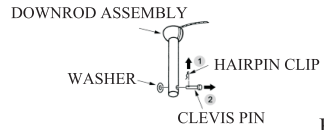

FIG.1
1. Remove the hairpin clip & washer from the clevis pin and remove clevis pin from down rod. (see Fig.1)
NOTE: After the AC power is on, do not press any other button on the wall transmitter before pressing the "SET" button (in the small plate), doing so will cause the procedure to fail. (Fig.1)